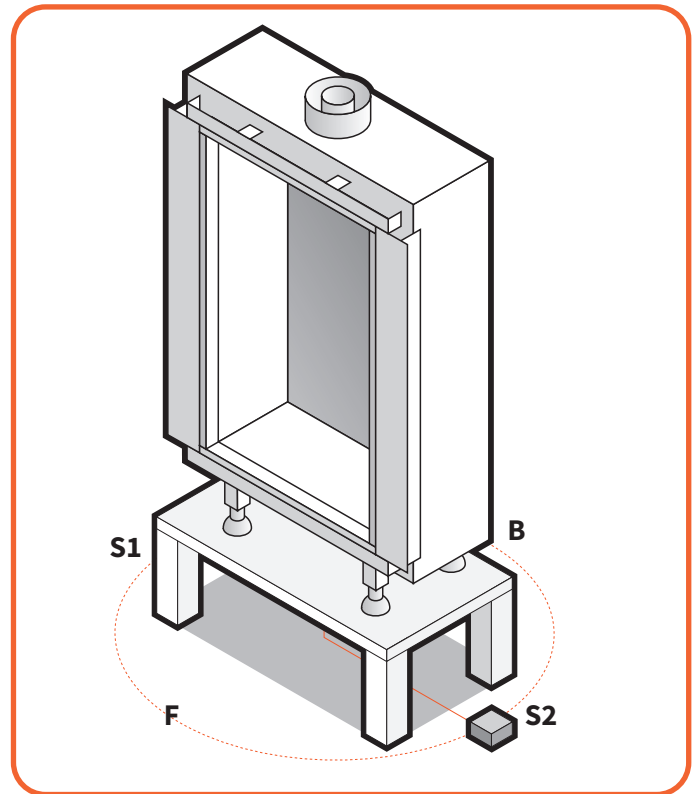

Figure 7.5 - Line set access
7.4.4 Line set access (see Figure 7.5)